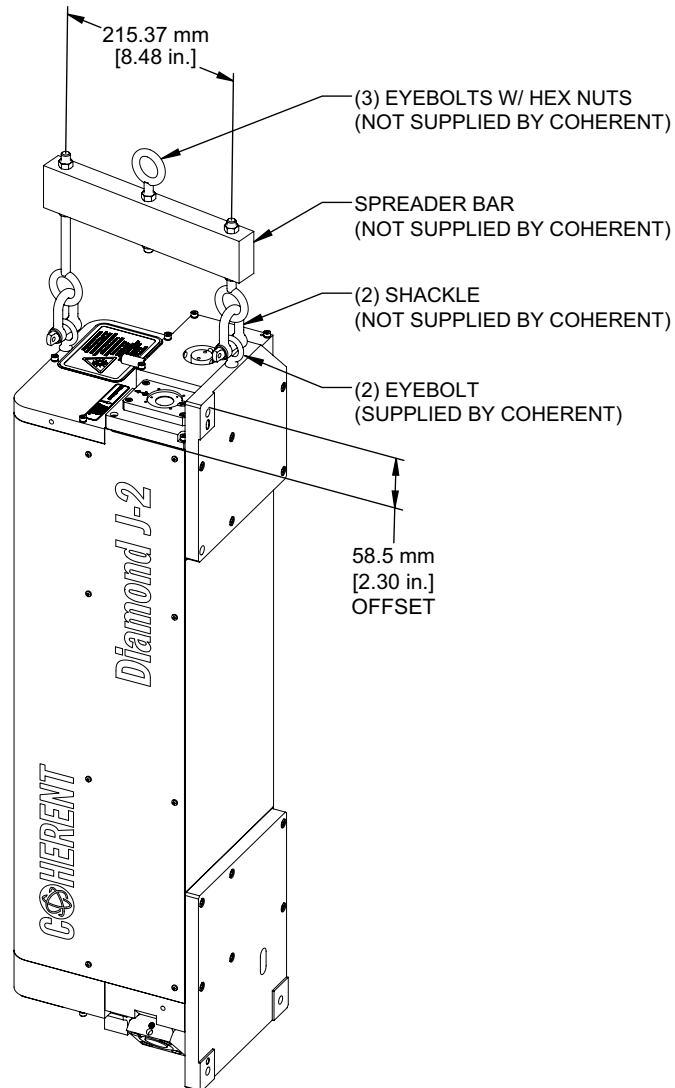

Figure 4-15. Vertical Mounting Illustration
1. Install eyebolts into screw holes. See Figure 4-14 for screw hole locations. Do NOT use the top eyebolt locations during vertical lift (refer to Figure 4-15 on page 73).
2. Securely connect appropriate slings or chains to the eyebolts and a user-supplied spreader bar. Chains/slings must be vertical when under load. See Figure 4-15.
3. Carefully lift the laser system while preventing the free end from moving around. See Figure 4-15.